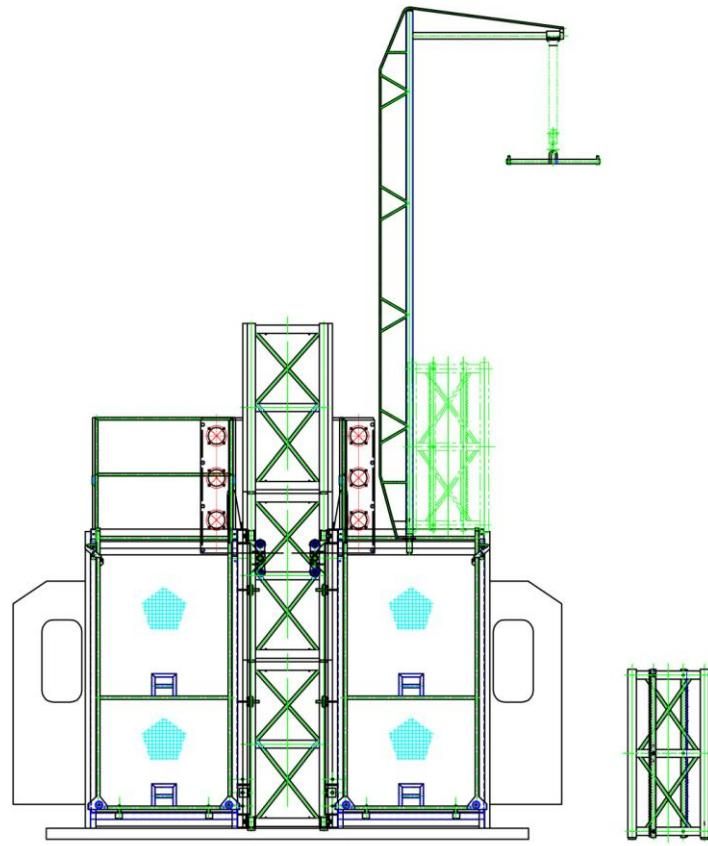

Figure 9
4.5.3 Hanging a mast section on the ground, actuating motor slowly, this section will be hanging from outside ground railing to top of cage, keep it in order.(figure 9)